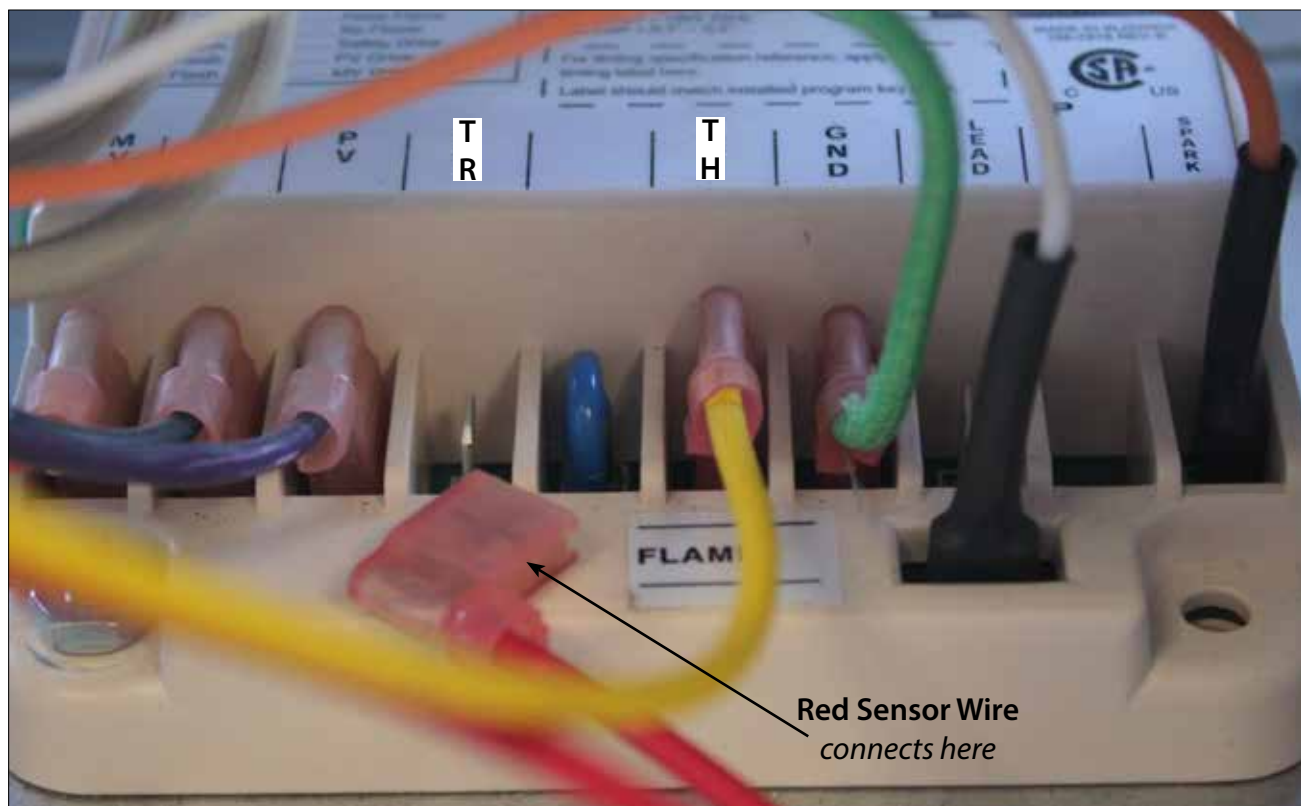

Figure A-2. Control Module Connections
*- Connect the yellow wire to the **TH** terminal of the control module. See Figure A-2.*